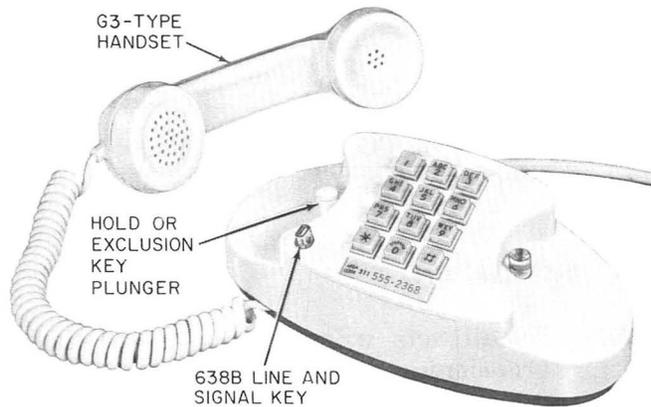
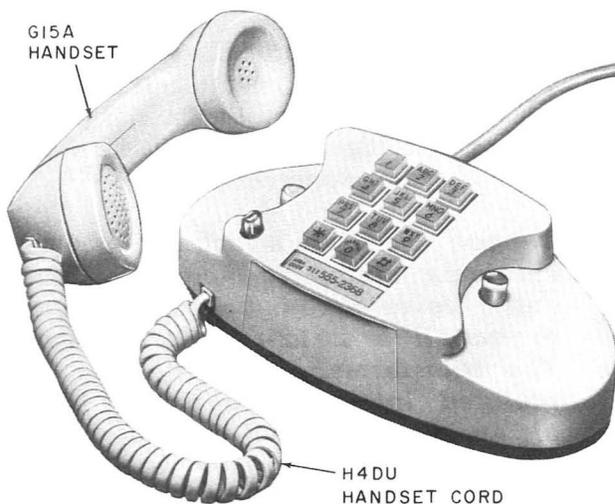

Fig. 1—2712B Telephone Set
Fig. 2—2712BM Telephone Set
2.05 The 2712B (nonmodular, Fig. 1) and the 2712BM (modular, Fig. 2) telephone sets are both equipped with a 638E key for line selection and signaling.